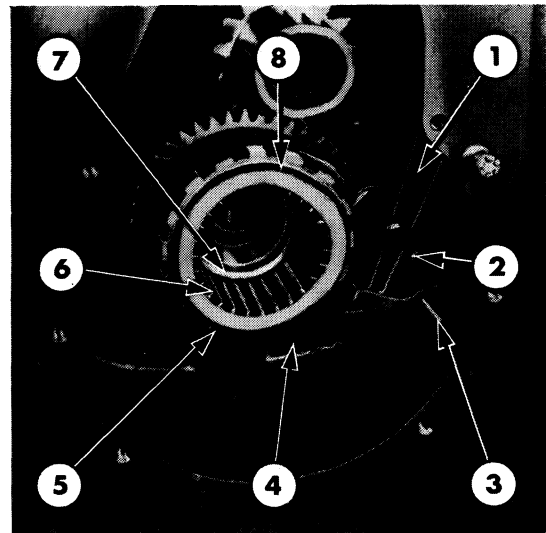

Figure 25
9. Remove the high/low gearshift sliding coupling from the shift fork fingers, Figure 25. Loosen the high/low shift fork lock nut and screw. Remove the high/low detent seat then remove the spring and ball, Figure 19. Use a magnet, if necessary, to remove the ball.